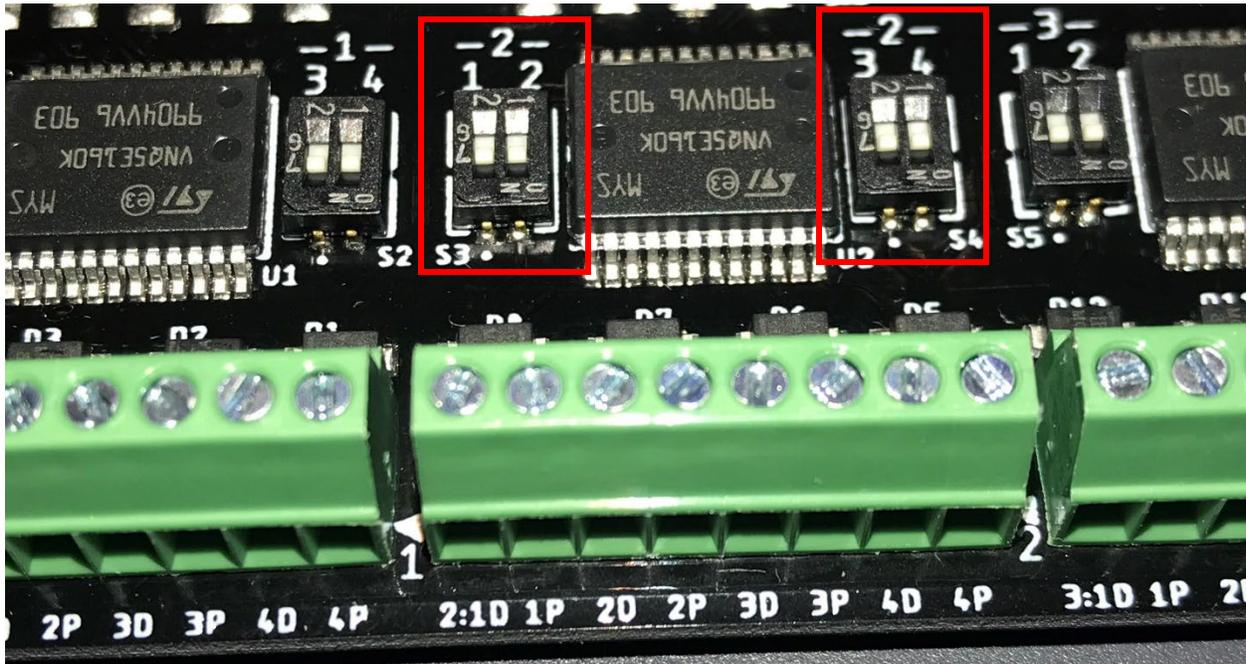

Figure 3: Terminal 2 with Driver Connect Switches for 1, 2, 3, and 4 terminals
5. The Base board slide switches are now fully exposed and may be changed. Use a small flat blade screwdriver to gently change any particular I/O pin-driver connection switch (see Figure 3).